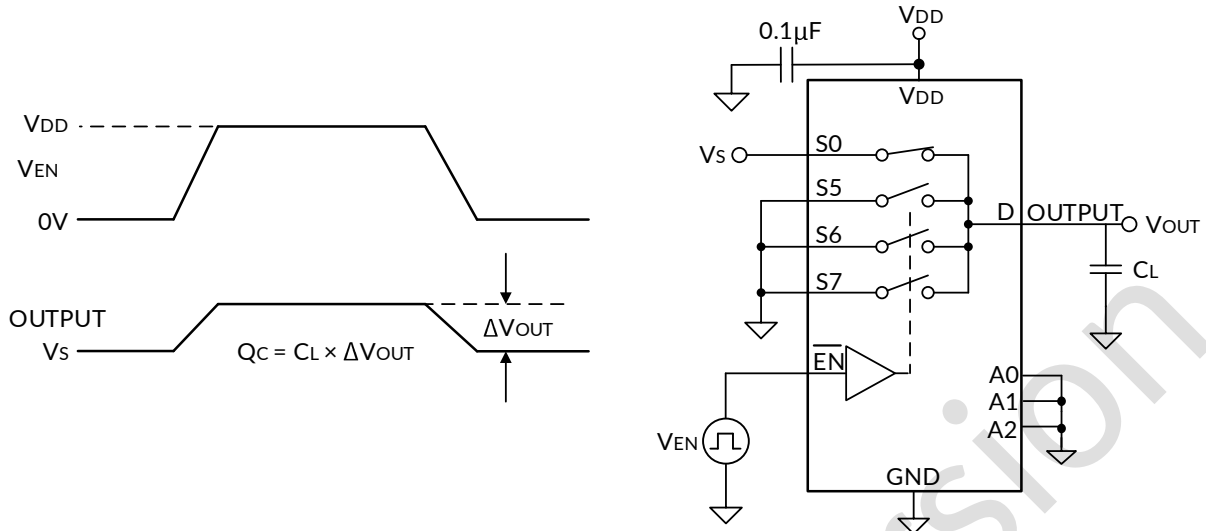

Figure 17. Charge-Injection Measurement Setup
The RMUX1308-Q1 device have a transmission-gate topology. Any mismatch in capacitance between the NMOS and PMOS transistors results in a charge injected into the drain or source during the falling or rising edge of the gate signal. The amount of charge injected into the source or drain of the device is known as charge injection, and is denoted by the symbol Q_c . Figure 17 shows the setup used to measure charge injection from source (S_x) to drain (D).